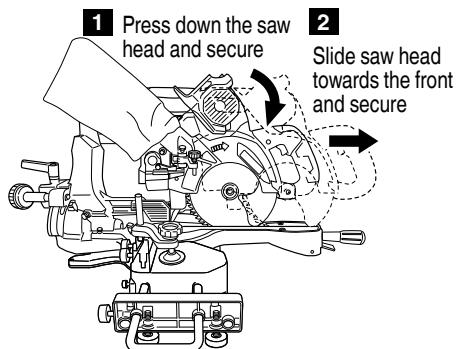

Fig. 54
(2) Securing the cord (Fig. 54, 55)
- ① Press down the saw head and secure in place with lock pin.
- ② Slide the saw head until it comes into contact with the front and secure the head with the slide securing wing bolt.